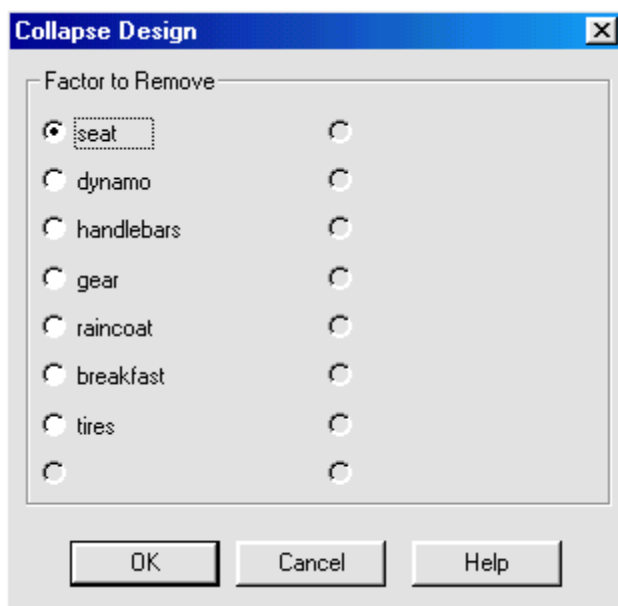

Figure 12-3. Collapse Design Dialog Box
2. Choose the Collapse Design option, then click OK to display the Collapse Design dialog box shown in Figure 12-3.